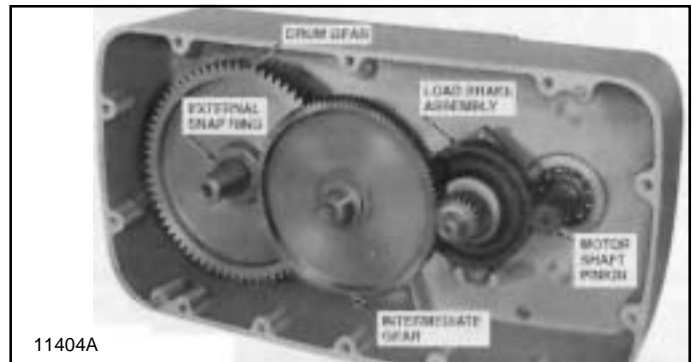

Figure 5-3. View of Gearcase – Cover Removed.
- a. The mechanical load brake and gearing may be inspected and serviced with hoist suspended. To do so, remove lower block and wire rope, drain oil from gearcase, remove 12 hex head bolts and lockwashers holding gearcase cover, and pull cover from gearcase (Figure 5-3).